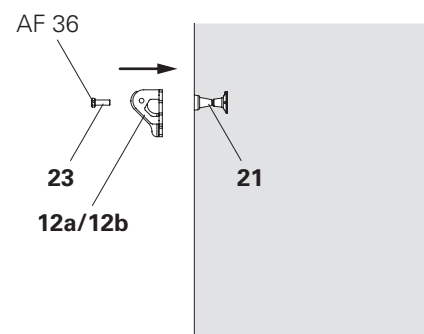
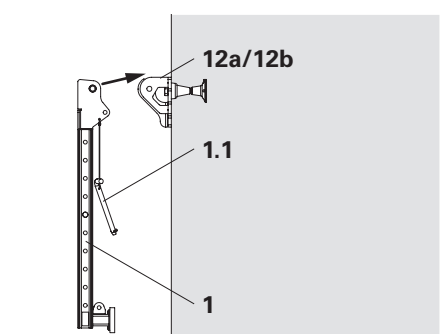
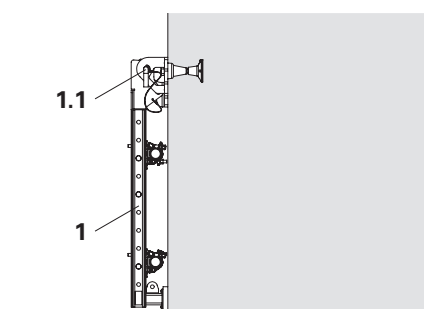

Fig. B1.11
Fig. B1.12
Fig. B1.13
1. Fix the Suspension Head VGK (12) to Screw-On Cone-2 M24/DW 20 (21) using bolts ISO 4014 M24 x 70-10.9 (23). (Fig. B1.11)
2. Attach Bracket Post VGK (1) to Suspension Head VGK (12) and secure by means of locking pins $\varnothing 20 \times 260$ (1.1) and cotter pins 4/1.
3. Assemble the scaffolding tube bracing. (Fig. B1.12 + Fig. B1.13)